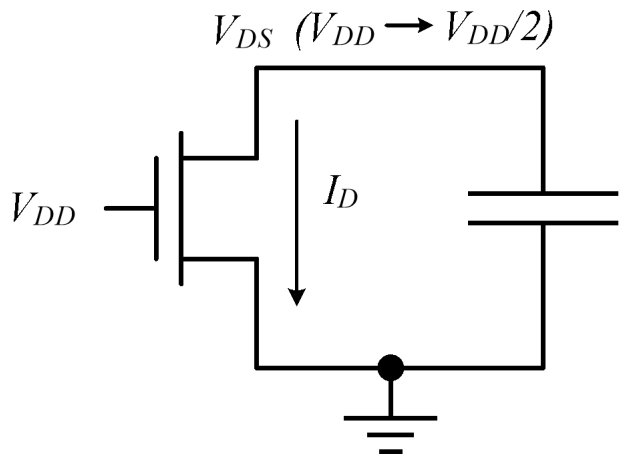
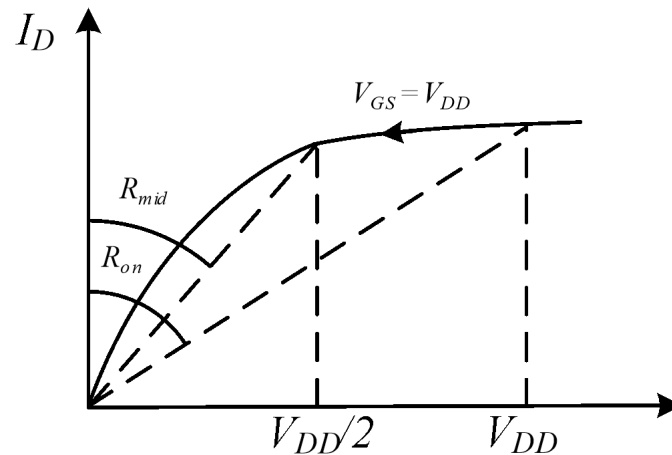

Fig. 1
Fig. 2
- $R_{on}$ : According to Fig. 1, set  $V_g = V_{DD}$ , conduct simulation and get the curve shown in Fig. 2. Then use equation (1) to estimate Roff value.